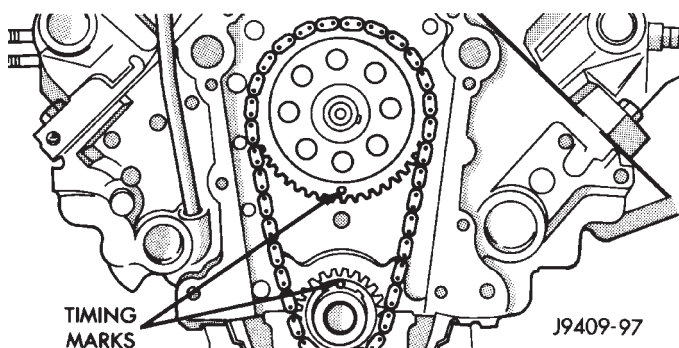

Fig. 6 Alignment of Timing Marks
- (7) Place timing chain around both sprockets.
- (8) Turn crankshaft and camshaft to line up with keyway location in crankshaft sprocket and in camshaft sprocket.
- (9) Lift sprockets and chain (keep sprockets tight against the chain in position as described).
- (10) Slide both sprockets evenly over their respective shafts and use a straightedge to check alignment of timing marks (Fig. 6).